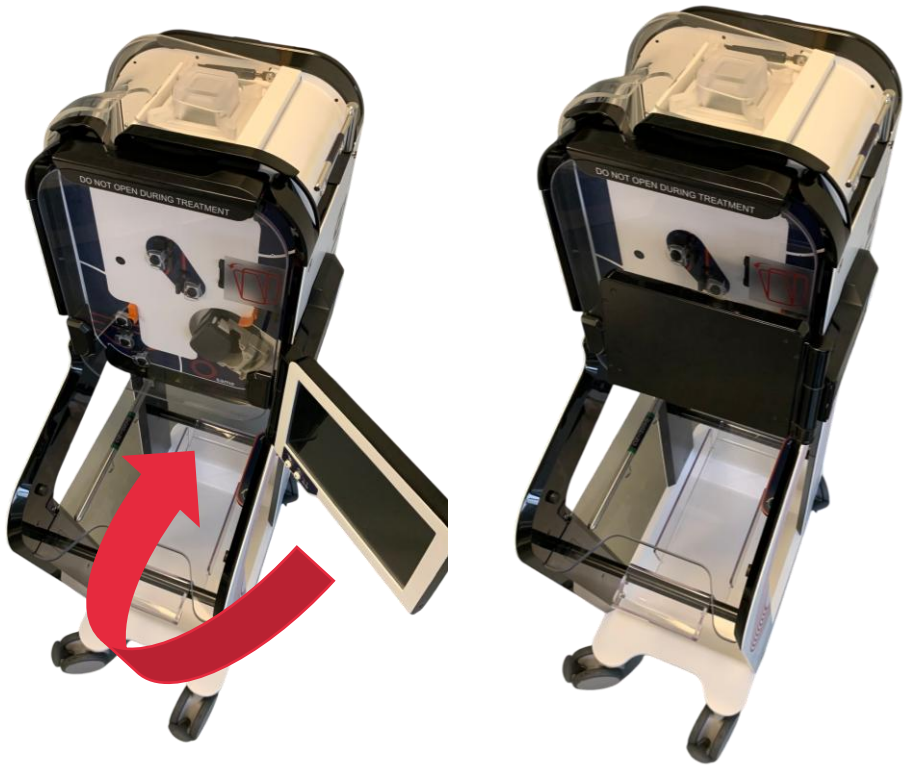

Figure 10: Screen rotation
- 2) Rotation of the HMI (-180° to 0°) (see Figure 10), this makes it possible to adjust the HMI so that it is at an ideal viewing angle for the user as well as to place the screen in the so-called 'parking' position when moving the machine so as to avoid collisions.